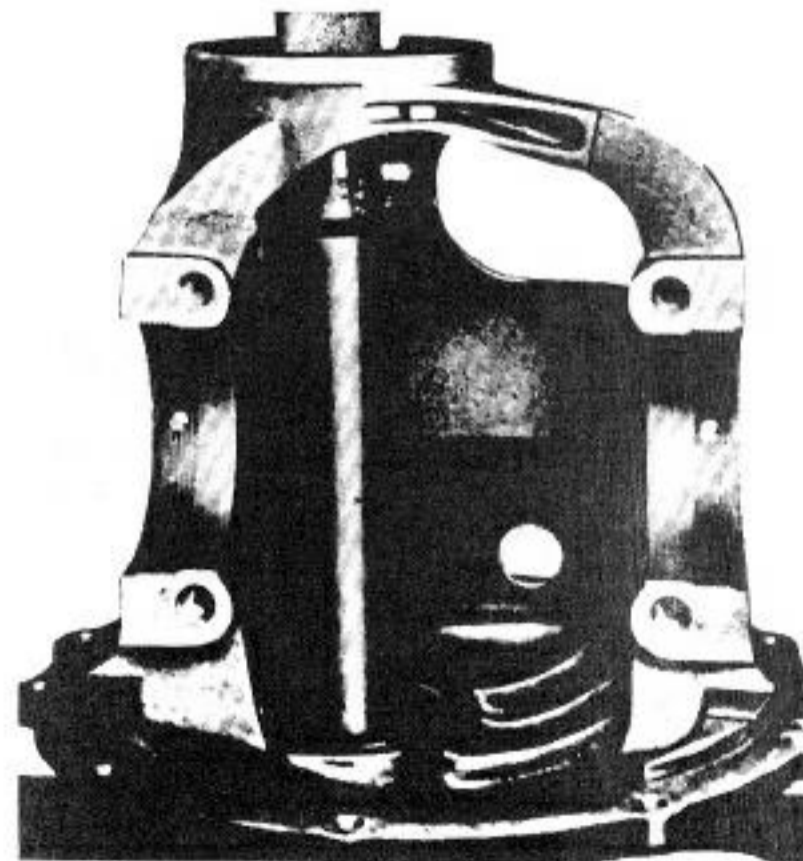

Fig. 11-13. Seating the pinion seal with a seal driver.
3. Drive in the pinion seal, as shown in Fig. 11-13.